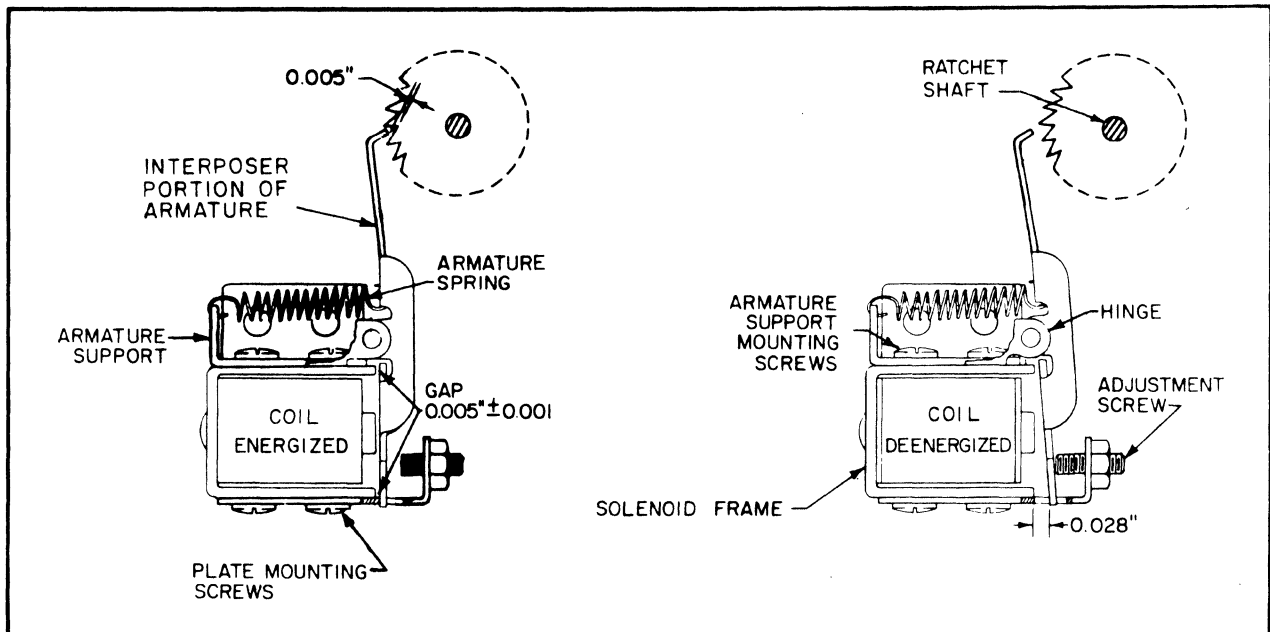

Figure 3.11 Forward Feed Solenoid
2. Check the gaps by electrically energizing the solenoid, or by pressing the armature against the solenoid. Do not apply any excessive force. Gap width should be 0.005 ± 0.001 inch as shown in Figure 3.11. If an adjustment is required, loosen the top and/or bottom armature or plate in such a manner that the specified gap is obtained. Measure the gap only with a non-magnetic feeler gage. Tighten all screws securely.
5. Loosen the solenoid mounting screws and pull the solenoid toward the rear of the punch (away from the ratchet shaft) until the rear mounting screw rests on the edge of the enlarged rear mounting hole. Then swing the solenoid toward the ratchet until the interposer portion of the armature leaves a gap between its tip and the outer edge of the adjoining ratchet gear tooth of 0.005 inch. The gap is shown in Figure 3.11.